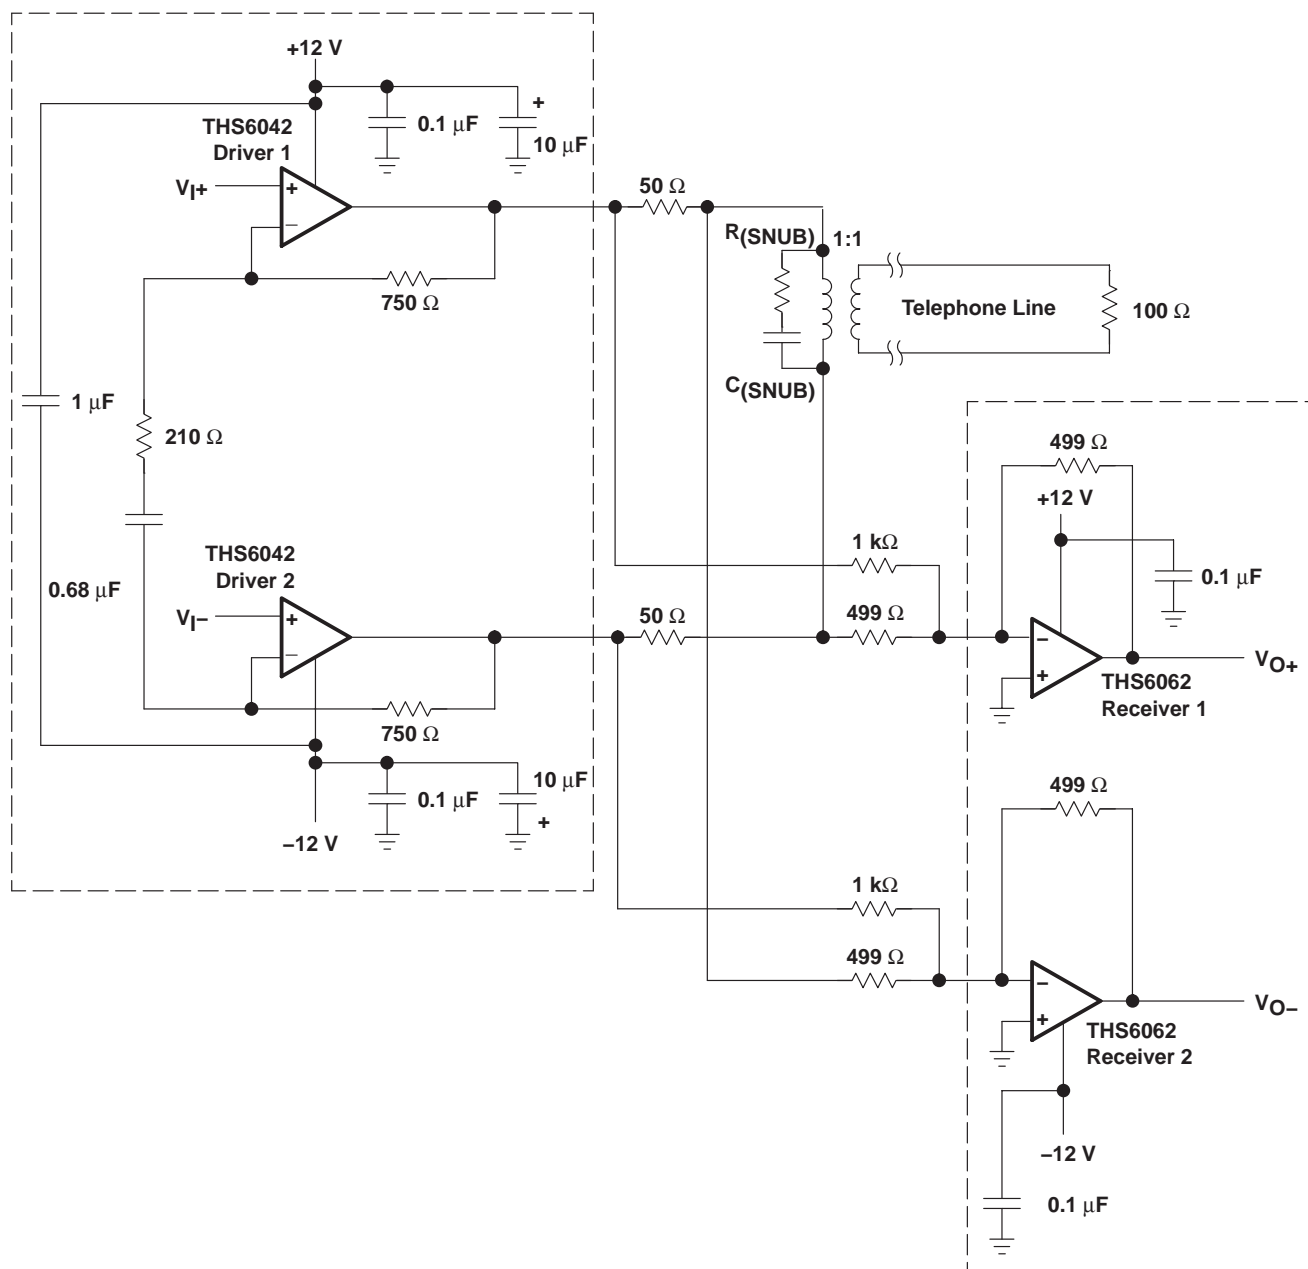

Figure 37. THS6042 ADSL Application With 1:1 Transformer Ratio
The THS6042/3 were primarily designed as line drivers for ADSL (asymmetrical digital subscriber line). The driver output stage has been sized to provide full ADSL power levels of 13 dBm onto the telephone lines. Although actual driver output peak voltages and currents vary with each particular ADSL application, the THS6042/3 are specified for a minimum full output current of 230 mA at ± 6 V and 300 mA at the full output voltage of ± 12 V. This performance meets the demanding needs of ADSL at the client side end of the telephone line. A typical ADSL schematic is shown in Figure 37.
- Differential power supply decoupling – The THS6042/3 were designed for driving low-impedance differential signals. The 50- Ω load which each amplifier drives causes large amounts of currents to flow from amplifier to amplifier. Power supply decoupling for differential current signals must be accounted for to ensure low distortion of the THS6042/3. By simply connecting a 0.1- μ F to 1- μ F ceramic capacitor from the +V_{CC} pin to the –V_{CC} pin, differential current loops will be minimized (see Figure 37). This will help keep the THS6042/3 operating at peak performance.